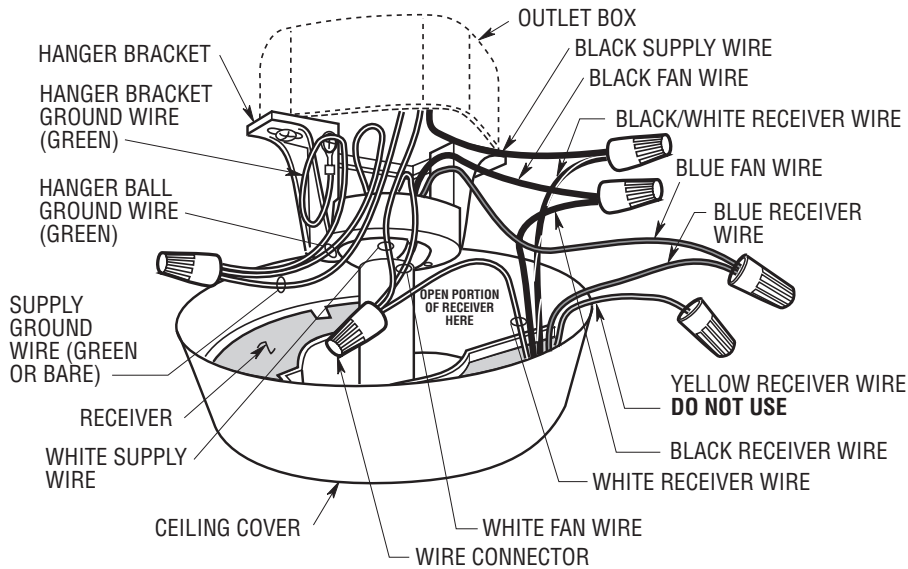

Figure 14
- 1. Pull the wire leads, coming from the end of the downrod, and the supply wires through the open side of the hanger bracket. (Figure 14).
- 2. Position the SW105 Receiver (supplied) in the ceiling cover so that the flat side of the receiver faces up and the open portion of the receiver is to the right, as shown in Figure 14.
- 3. Using wire connectors (supplied), make wiring connections as follows (Figure 14 and 15):